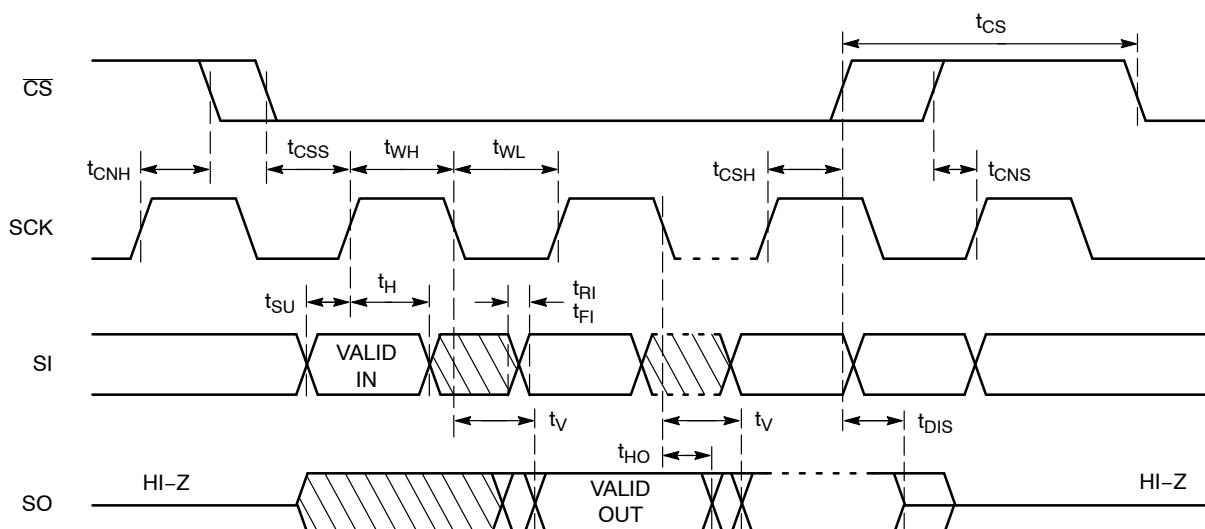

Figure 2. Synchronous Data Timing
9. All Chip Select (CS) timing parameters are defined relative to the positive clock edge (Figure 2). t_{C_{SH}} timing specification is valid for die revision D and higher. The die revision D is identified by letter "D" or a dedicated marking code on top of the package. For previous product revision (Rev.C) the t_{C_{SH}} is defined relative to the negative clock edge.
After a high to low transition on the \overline{CS} input pin, the CAT25128 will accept any one of the six instruction op-codes listed in Table 10 and will ignore all other possible 8-bit combinations. The communication protocol follows the timing from Figure 2.